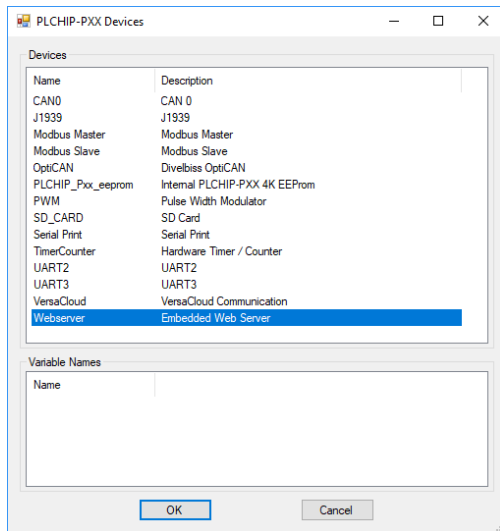

Figure 24-2
- Click the **ADD DEVICE** button. The PLCHIP-PXX Devices window will open. Select the **Webserver** and click **OK**. See Figure 24-2.